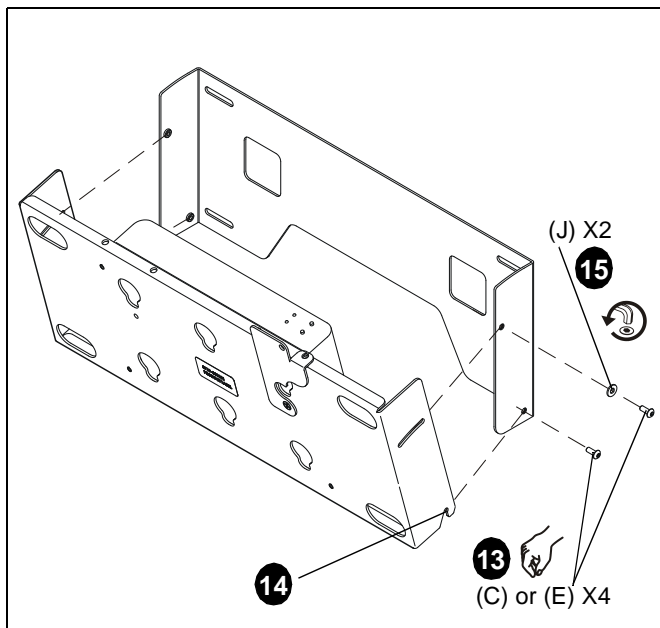

Figure 6
13. Hand-tighten one 10-24 x 1/2" button head security screw into the bottom hole on each end of the back bracket. (See Figure 6)